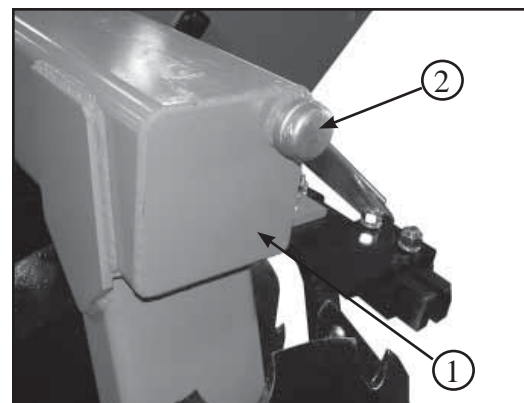

Figure 18
Figure 18 shows the fill plug (2) with one being located on both the front and rear gang frames.